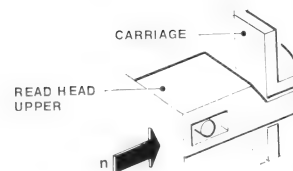
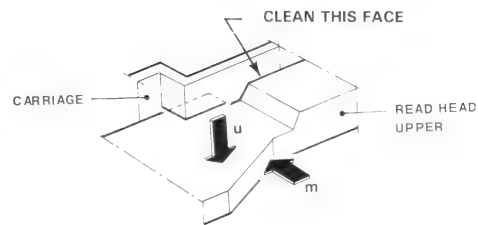

Figure 4.2.8c
Figure 4.2.8d
- Engage part k in the slot of the carriage and push it in U then m direction (figure 4.2.8d) and n direction (figure 4.2.8c)